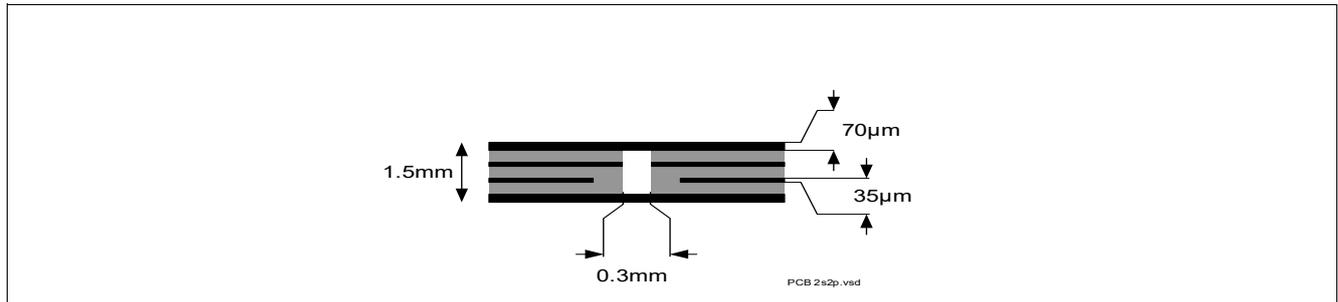

Figure 4 2s2p PCB Cross Section
- 2) Specified R_{thJA} value is according to JEDEC JESD51-2,-5,-7 at natural convection on FR4 2s2p board with 1 W power dissipation at $T_A=105^{\circ}C$. The product (chip + package) was simulated on a 76.4 x 114.3 x 1.5 mm board with 2 inner copper layers (2 x 7 μ m Cu, 2 x 35 μ m Cu). Where applicable, a thermal via array under the exposed pad contacts the first inner copper layer. Please refer to Figure 4.